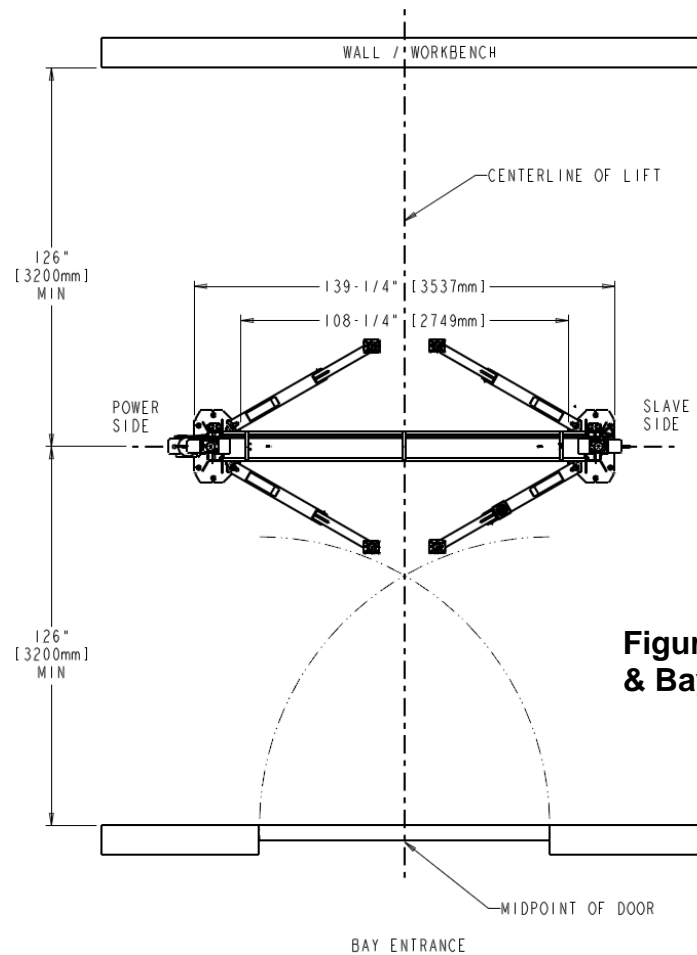

Figure 3. Chalk line & Bay Layout
Use architectural plans when available to locate lift shown in Figure 3. Layout shown are of a typical bay layout. Lift floor should be level.
6. Measure the specified distance (126") to draw a second chalk line at 90° for locating the lift towers. Refer to Figure 3.